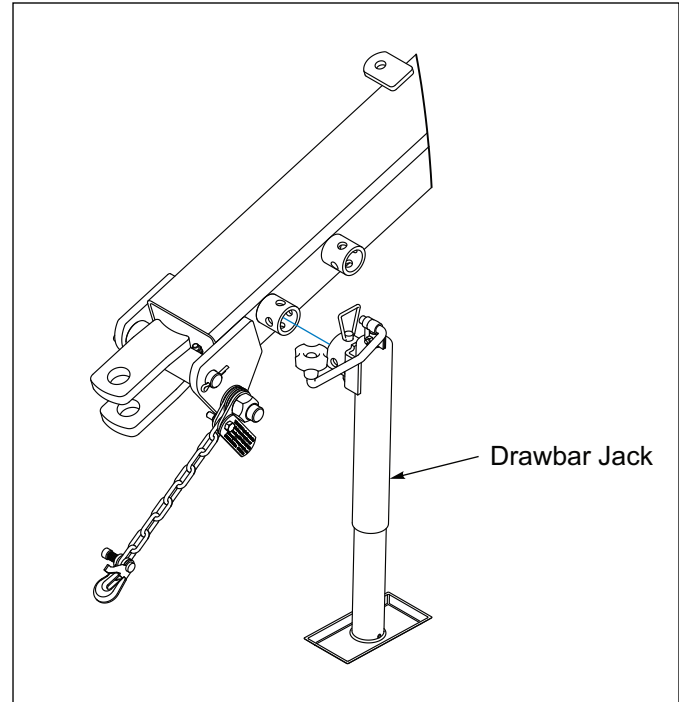

Figure 2-12: Drawbar Jack
6. Attach the Jack using the pin provided. **See Figure 2-12.**